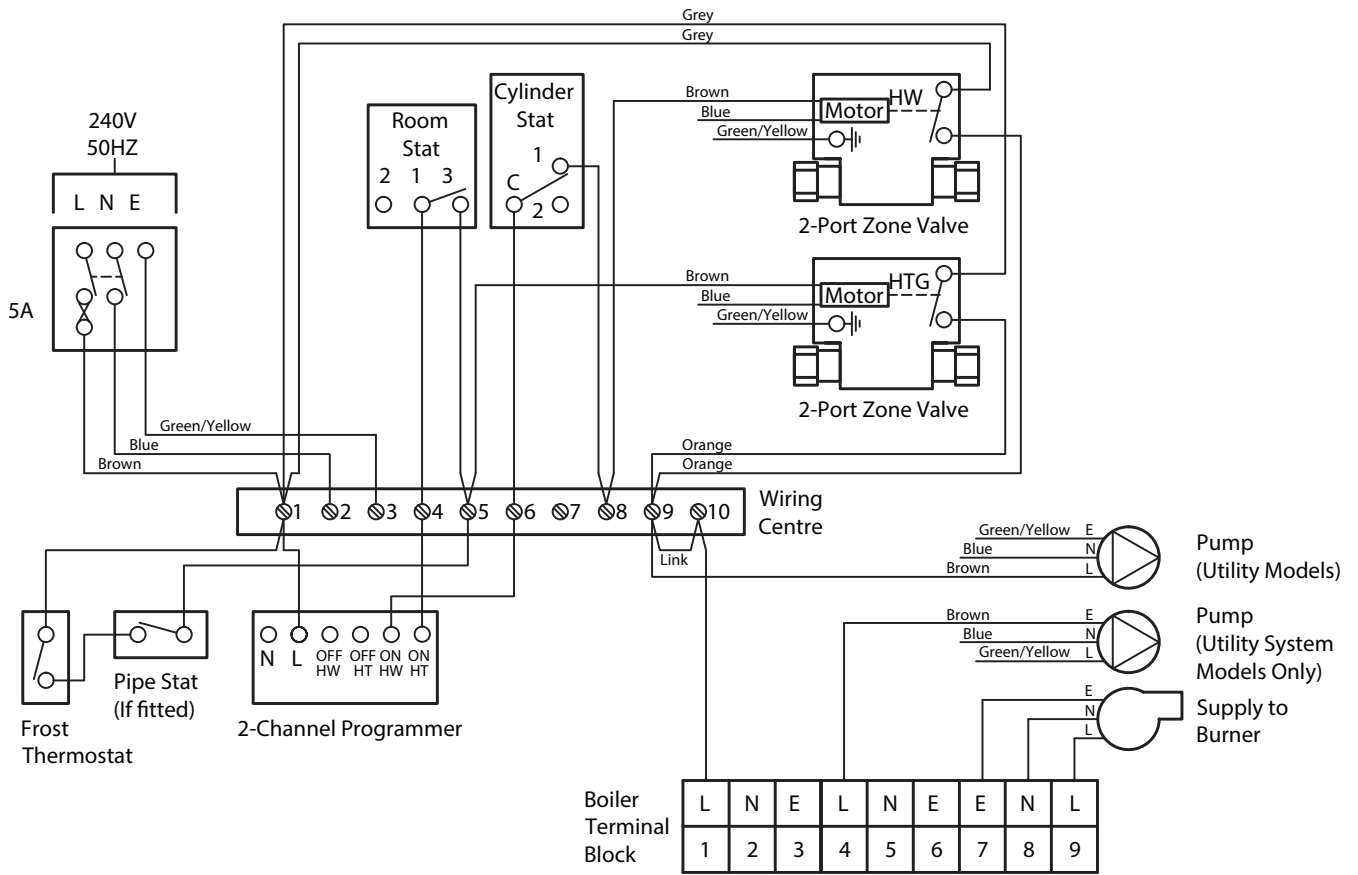

Figure 8-1: Utility & Utility System models with 2 X 2-port valve control system
Refer to Figure 8-1 for typical control system wiring diagrams for all models.
Refer to Figure 8-1 for typical control system wiring diagrams.
3. Make the remaining required connections to the control panel, as detailed in Figure 8-1.
Refer to Figure 8-1 (as appropriate) for connection details.